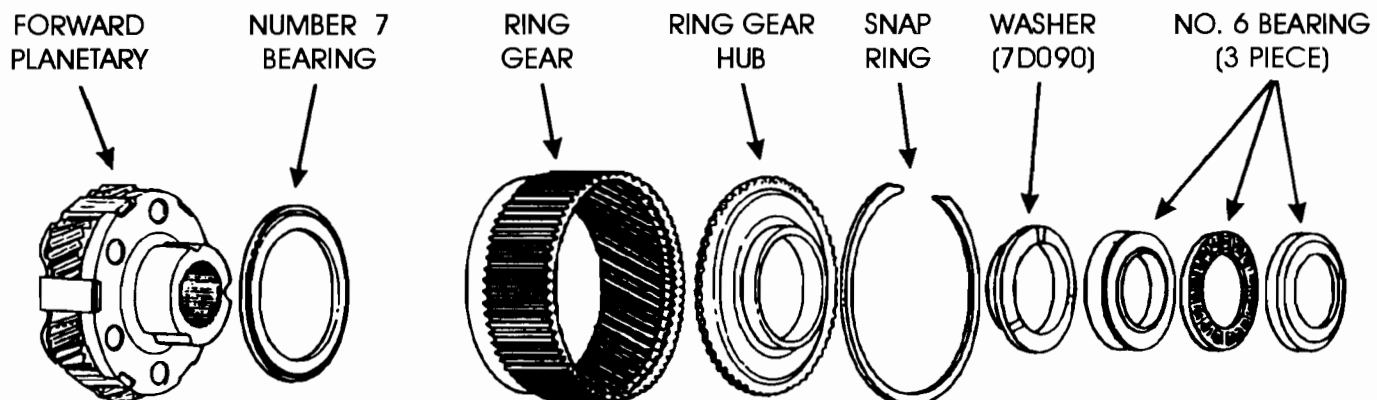

Figure 24
- (2) **FORWARD RING GEAR HUB** - The 1st Design forward ring gear hub uses a number 7 thrust washer as shown in Figure 24. On the 2nd Design ring gear hub, a recess was machined to accommodate an added number 7 thrust bearing, that replaced the number 7 thrust washer. Refer to Figures 23 and 24. Both 1st and 2nd design ring gear hubs inside diameter measure 1.500", as shown in Figure 23.
On the 3rd Design ring gear hub the inside diameter was machined approximately .080" larger to accommodate a new design number 6 "Top Hat" thrust washer (See Figure 24). The inside diameter on the 3rd Design ring gear hub measures 1.580", as shown in Figure 23.
- (3) **NUMBER 6 THRUST WASHER** - Was changed from a 3 tab thrust washer to a "Top Hat" design thrust washer in 1987 (See Figure 24). This change is what required the larger inside diameter on the ring gear hub.
Beginning in 1990, on 4.0L engine models, the number 6 "Top Hat" thrust washer was replaced with a new number 6 (3 piece) thrust bearing, as shown in Figure 24. Notice also the added washer (7D090), that must be used with the 3 piece bearing design (See Figure 24). This is what required the carrier to be machined shorter. The 3 piece thrust bearing has now been changed to a normal "Torrington" (Snap Together) type bearing, and replaces the 3 piece design, without any other changes.
- (4) **NUMBER 7 THRUST WASHER** - Sometime in 1986, the number 7 thrust washer was eliminated, and replaced with a number 7 thrust bearing as shown in Figure 24. This change required the machined recess in the ring gear hub, to make room for the thrust bearing, as shown in Figure 23. The number 7 thrust bearing is still used through current production (See Figure 24).
- (1) The **1st Design 3 pinion aluminum** front planetary carrier system, as shown in Figure 24, is recommended for nothing larger than 2.3L engine models. The 1st Design 3 pinion aluminum front planetary carrier is no longer serviced by Ford Motor Co. It now upgrades to the latest 3rd Design 6 pinion steel front planetary carrier system, which comes as a service package and includes all necessary hubs and washers to make it compatible, and is available under OEM part number F0TZ-7A398-E.
- (2) The **2nd Design 4 pinion steel** front planetary carrier system, as shown in Figure 24, with the 1.580" inside diameter ring gear hub, the number 7 thrust bearing, the number 6 "Top Hat" thrust washer **WILL** retro-fit back on all models, **except** 4.0L engine models, but all parts listed above must be used as an assembly (See Figure 24). The 2nd Design 4 pinion steel front planetary carrier is no longer serviced by Ford Motor Co. It now upgrades to the latest 3rd Design 6 pinion steel front planetary carrier system, which comes as a service package and includes all necessary hubs and washers to make it compatible, and is available under OEM part number F0TZ-7A398-E.
- (3) The **3rd Design 6 pinion steel** 4.0L engine front planetary system, as shown in Figure 24, with the 1.580" inside diameter ring gear hub, the number 7 thrust bearing, number 6 (3 piece) thrust bearing, and bushing (7D090) **WILL** retro-fit back on all previous models, but the parts listed above **are mandatory on all 4.0L engine models** (See Figure 24).